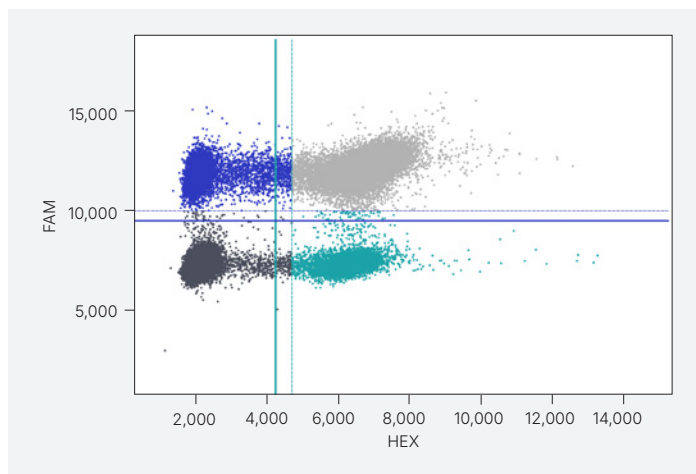

Fig. 4. Example thresholding adjustment for Positive Control.
5. Examine the automatically applied threshold lines for each used channel in all wells for accuracy. If any clusters are cut off by the thresholds, the threshold lines should be manually adjusted. It is recommended to use the Lines thresholding tool and to apply common thresholds for all control and sample wells. See Figure 4 for an example plot.